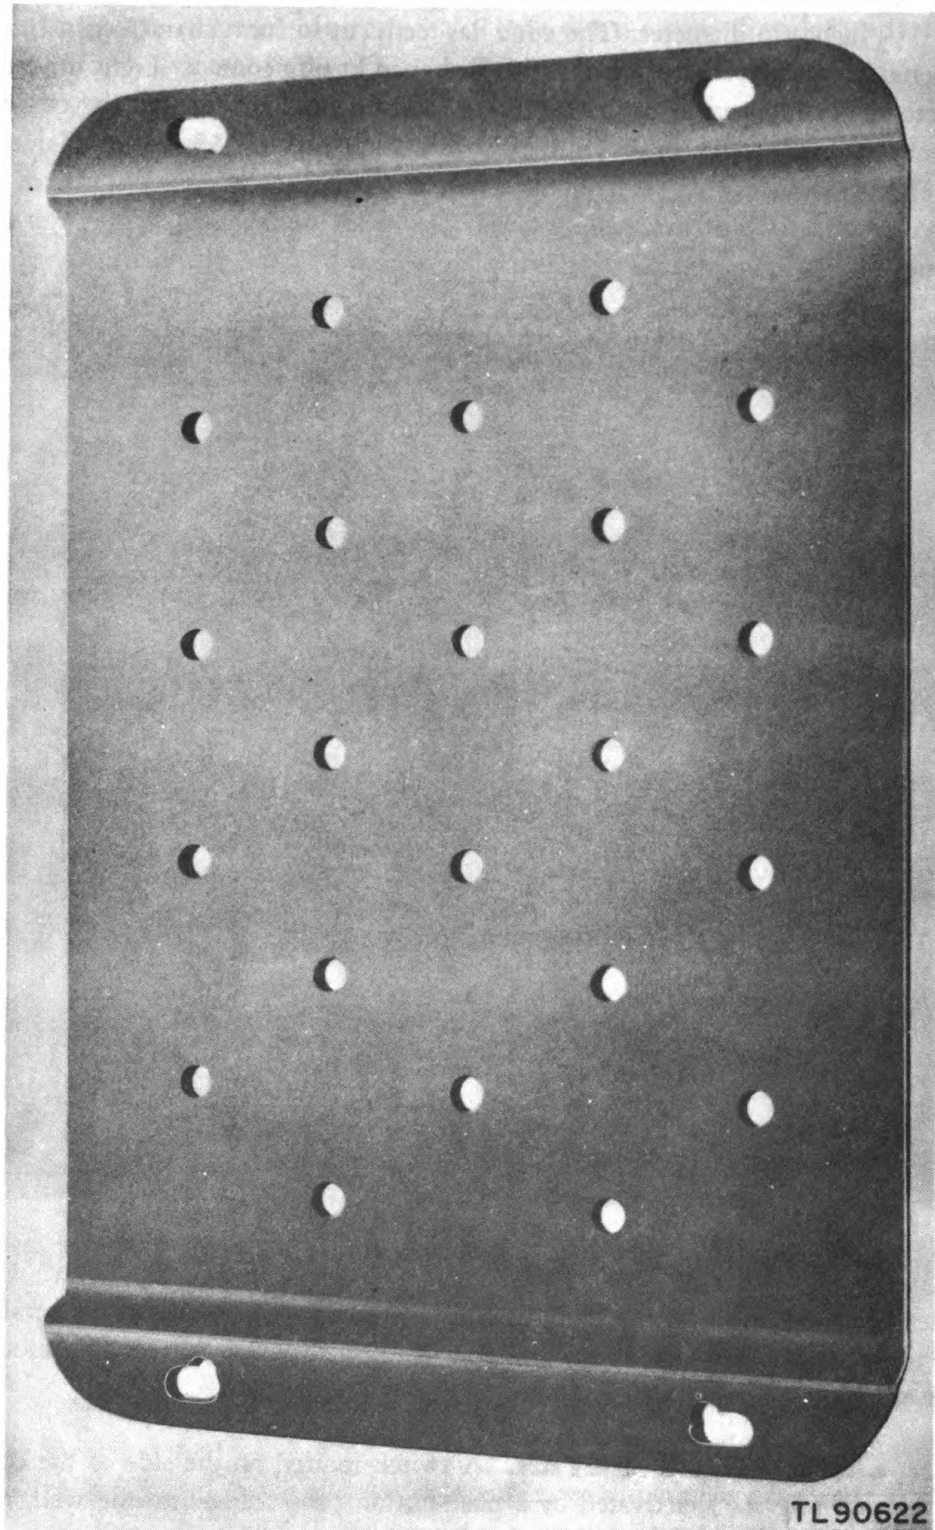

Figure 19. Mounting FT-492.
20. MOUNTING FT-492. The universal mounting plate (fig. 19), consists of a piece of sheet steel 19 by 12 inches. A 1½-inch flange, the width of the plate, is bent-up at each end and drilled to accommodate the antenna mount. The flat portion of the plate is drilled with a total of 22 holes to facilitate mounting the beacon in various types of vehicles having predrilled holes, thus eliminating the necessity of boring holes in vehicles with armor plate. If, in any installation the rear holes are inaccessible for bolt tightening, two bolts can be installed upward on the plate, thus providing a quick and effective installation. The weight of the mounting plate is 11½ pounds.